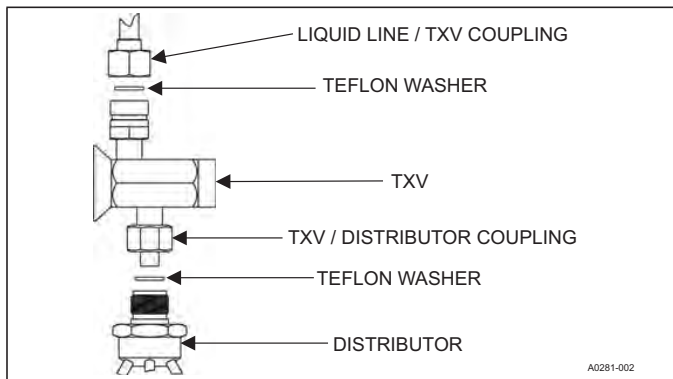

FIGURE 11: TXV Installation
4. Install the thermal expansion valve to the distributor assembly with supplied fittings. Ensure Teflon washer is seated in distributor. Hand tighten and turn an additional 1/4 turn to seal. Do not over-tighten fittings. See Figure 11.